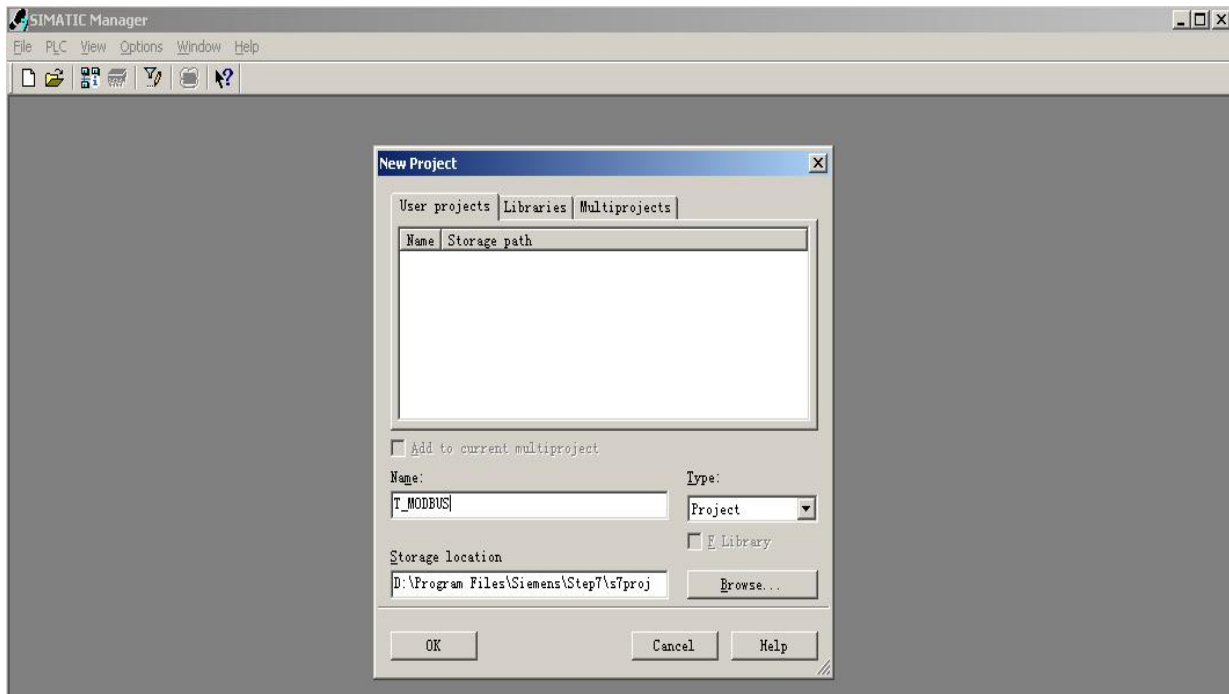

Figure 2
2. Click File->New, create a new project. Figure 2: